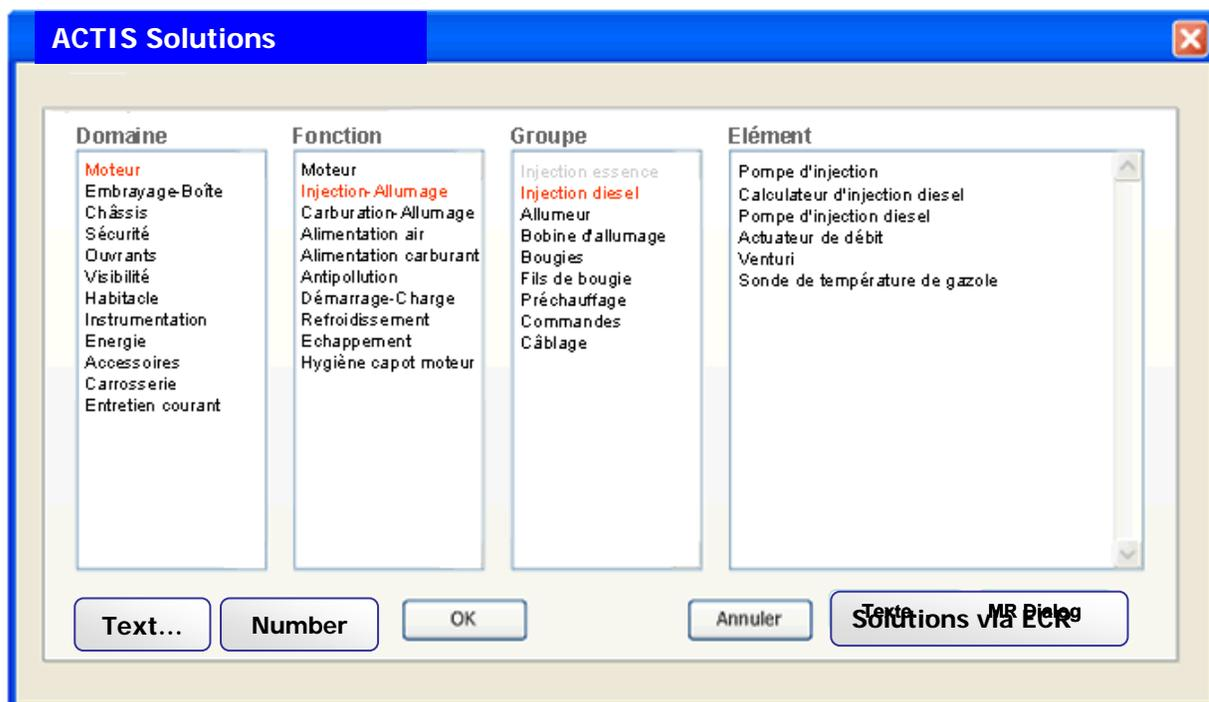

Figure 1: Actis Solutions dialog box
- Using the "ACTIS Solutions" button on the main menu (figure 1)
- or using the ECR folder structure (*click on the "Solutions via ECR" button, on the bottom right-hand side, figure 1*)